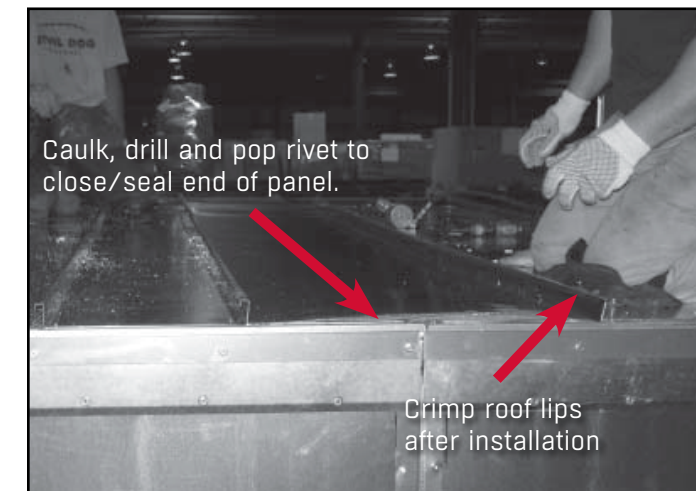

FIGURE 12.
- 19)** Crimp roof lips with crimping tool. (See **FIGURE 12**)